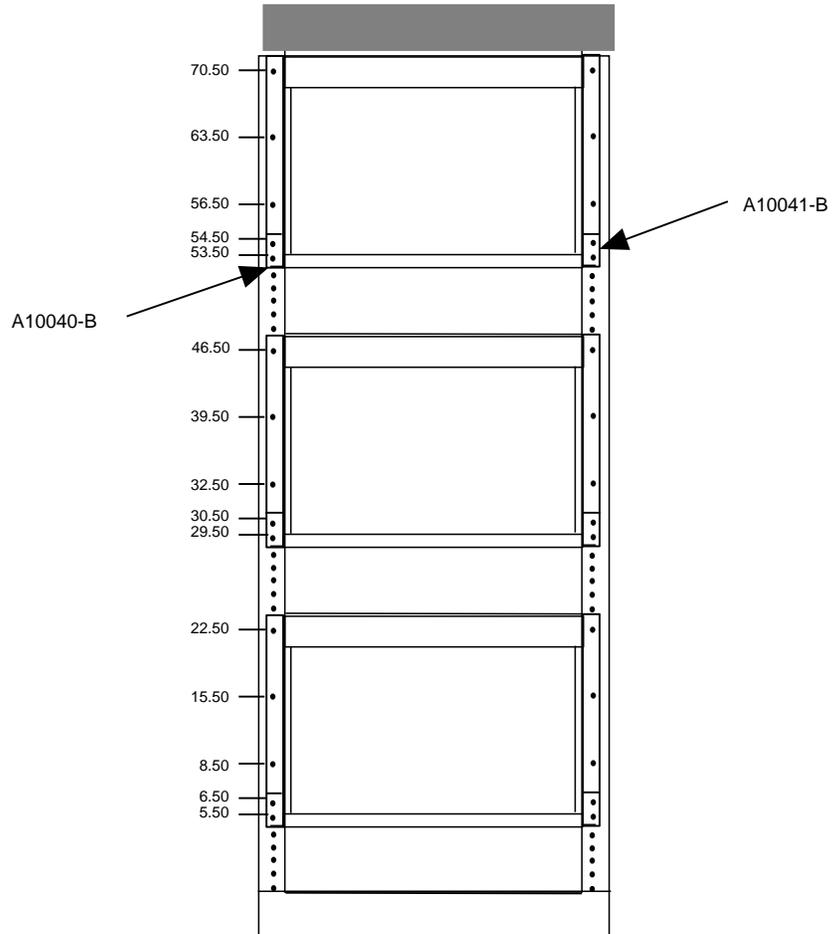

Figure 2-6. Mounting Locations on the Common ESS Frame
2. Locate and attach the two support brackets (A10040-B and A10041-B) to the frame (Figure 2-6) beginning with the lowest frame location.
10. Install the cable restraint bar on the rear of the unit in the bottom-most mounting holes (Figure 2-6).